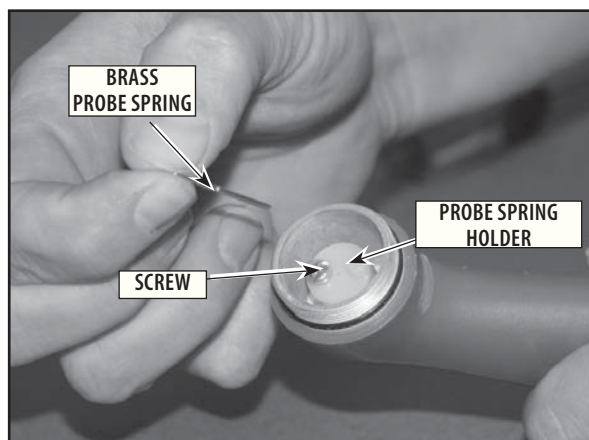

FIGURE 6.25
2. Remove the brass Probe Spring and inspect for damage. Retain the Probe Spring for installation if undamaged. **Refer to Figure 6.25.**
3. Using a # 1 Phillips screwdriver remove the screw securing the Probe Spring Holder to the Applicator housing. **Refer to Figure 6.25.**